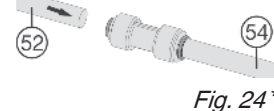

Fig. 24*
► Connect the supplied extension hoses Fig. 24 (54) to the appliance hoses Fig. 24 (52): Slide the appliance hoses into the connectors as far as they will go (approx. 21/32" (17 mm)) (see 12).*